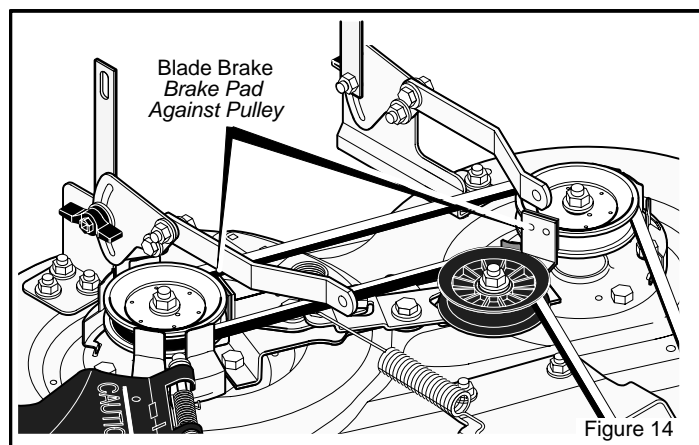

Figure 14
8. Move the **blade rotation control** to the **DISENGAGE** position. Stop the engine. Disconnect the wire from the spark plug. Check the operation of the **blade brake**. Rotate the pulleys with your hand. Make sure the **brake pads** are pressed tightly against the pulleys (Figure 14).